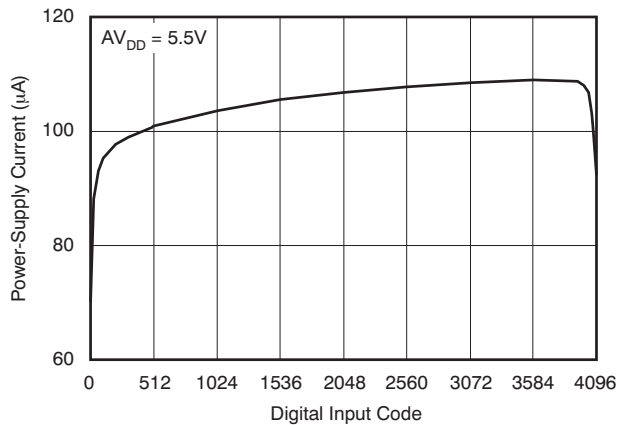
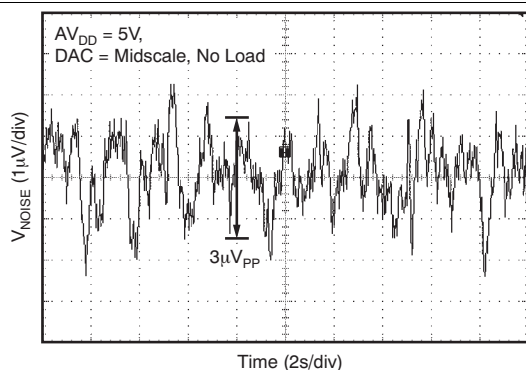

Figure 16. Power-Supply Current vs Digital Input Code
Figure 24. DAC Output Noise, 0.1-Hz to 10-Hz Bandwidth
(5) For more details, see Figure 24.
(6) Specified by design and characterization, not production tested.
(7) For more details, see Figure 16 and Figure 58.